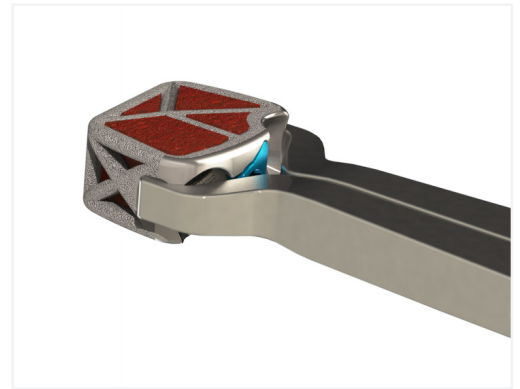

Figure 14
- ▶ Attach the implant to the Freehand Inserter (Fig. 14).